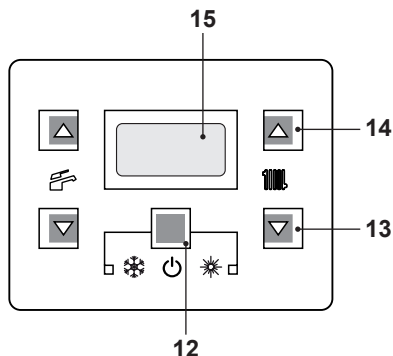
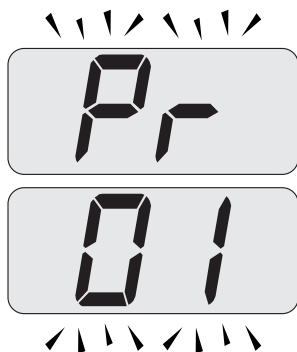

Fig. 9.3
Fig. 9.4
- Enter in "programming mode" by sequentially pressing and holding in keys 12 - 13 - 14 (Fig. 9.3) for 10 seconds until the letters **Pr** that alternate with code **01** are displayed on the LCD display, indicating that "parameter 01" (Fig. 9.4) has been activated.
- Press keys 12 and 14 (Fig. 9.3) at the same time until the value of parameter 05 (00=G20) is displayed on the LCD display (Fig. 9.6).
- By pressing key 14 three times, it is possible to change the value of parameter 05 from **00**=G20 to **05**=G31, which is ok for LPG gas.
- By pressing key 12 (Fig. 9.3) confirmation of the inserted value is obtained.
- Press keys 12 and 13 (Fig. 9.3) at the same time to exit without changing the value (return to the parameters list Fig. 9.5).
- Press sequentially keys, 12 - 13 and then 14 (Fig. 9.3) and hold in for 10 seconds to exit the "programming mode".